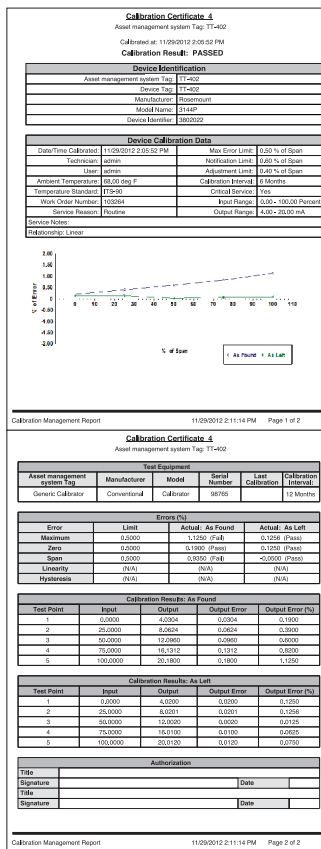

Figure 5.12a – Typical Calibration Documentation
- Complete calibration data sheet with as-left data (See Figure 5.12a)